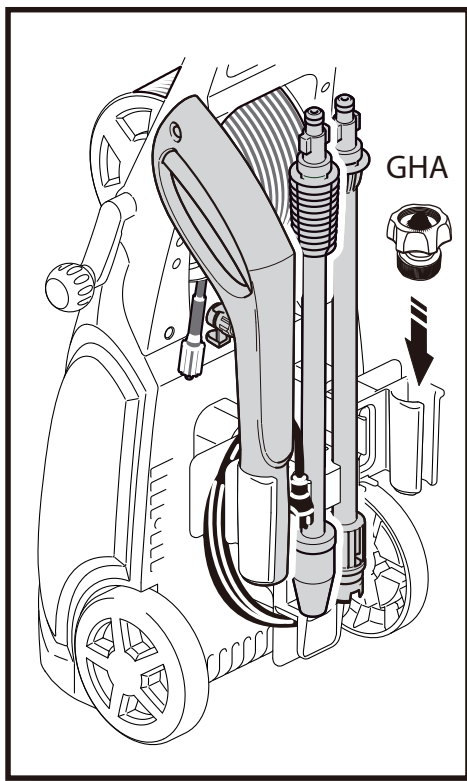

Fig. 19
- The GHA should be stored in the accessory holder when your unit is not in use to prevent loss or damage (Fig. 19).
- Remove lance or detergent bottle from the gun and place in the accessory holder. Place the gun in the accessory holder in one of the slots. Lances are pressed into and stored in the half circle notches (Fig. 19). Make sure to discard any remaining detergent from the bottle. Flush the bottle and nozzle head with fresh water to prevent clogging.